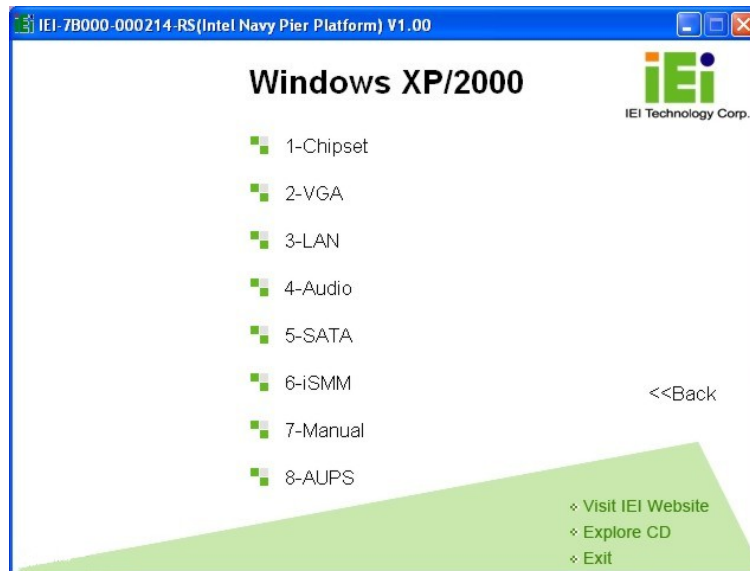

Figure 7-3: Drivers
Step 6: The list of drivers in **Figure 7-3** appears.
Step 1: Access the driver list shown in **Figure 7-3**. (See **Section 7.2**)